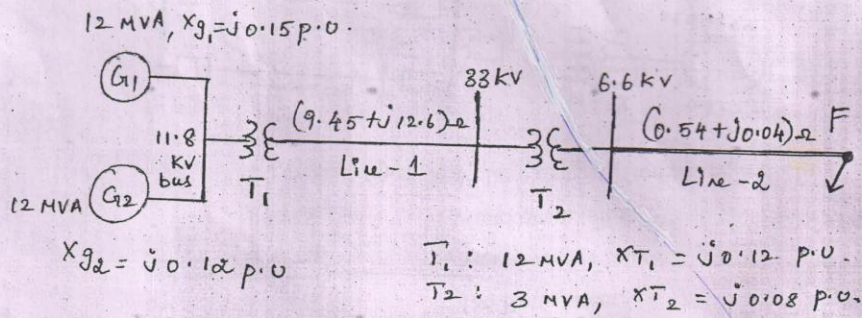

Fig. 13(a)
13. (a) For the radial network shown in Fig. 13(a) 3 ϕ fault occurs at point F. Determine the fault current and the line voltage at 11.8 kV bus under fault condition. (9,49)